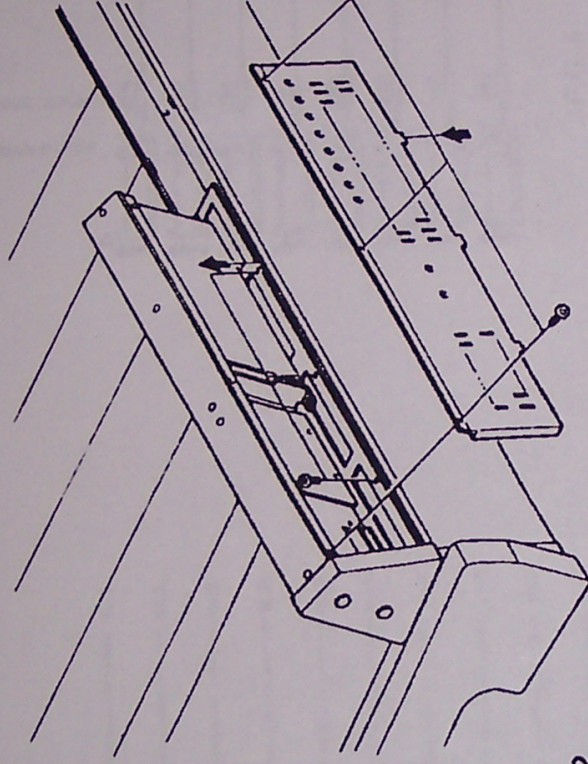

FIG. 2
- 1-2. Refer to Figure 2 and remove the screws that hold the standard meter rear panel in place.